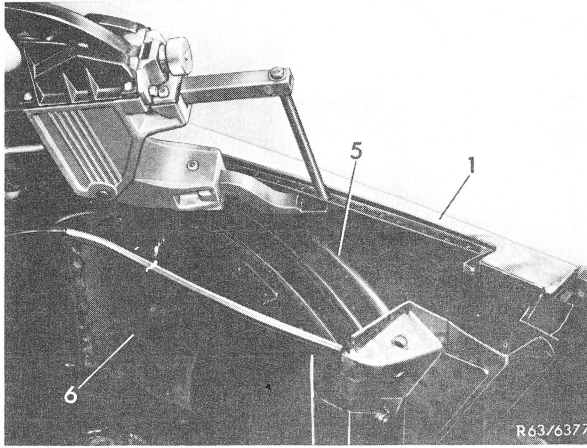

Fig. 6
26 Spotweld rear fender (1) to side wall (5) of top well (6) (Fig. 6).